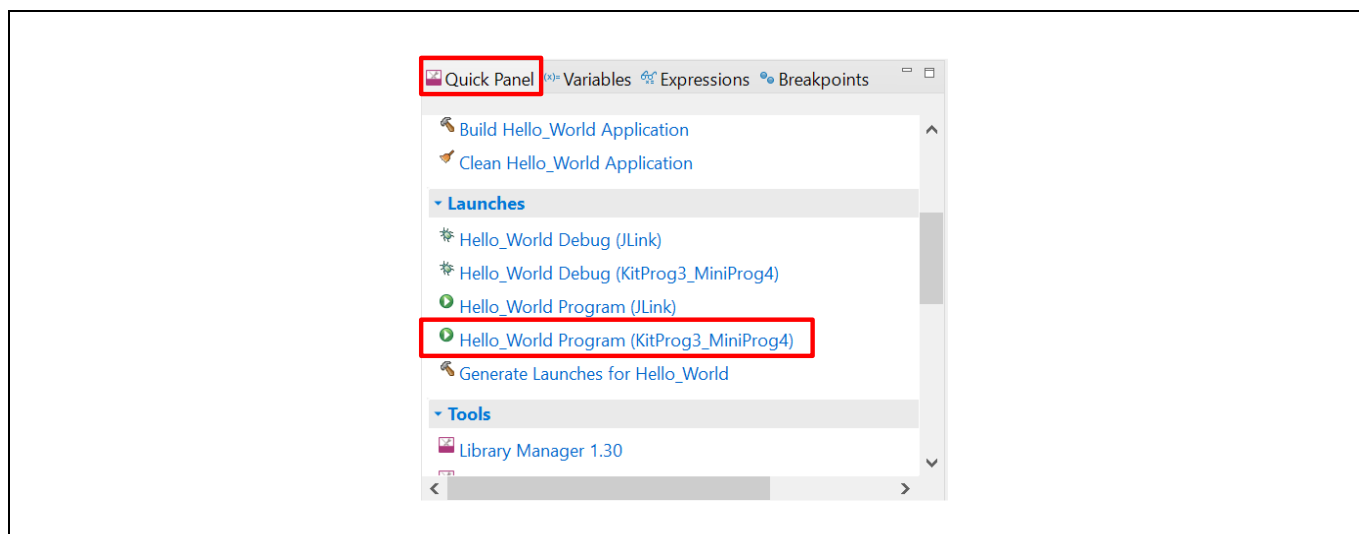

Figure 13 Programming in ModusToolbox™ software
- To build and program a PSoC™ 6 MCU application, in the Project Explorer, select **<App_Name>** project. In the Quick Panel, scroll to the Launches section and click the **<App_Name> Program (KitProg3_MiniProg4)** configuration as shown in Figure 13.